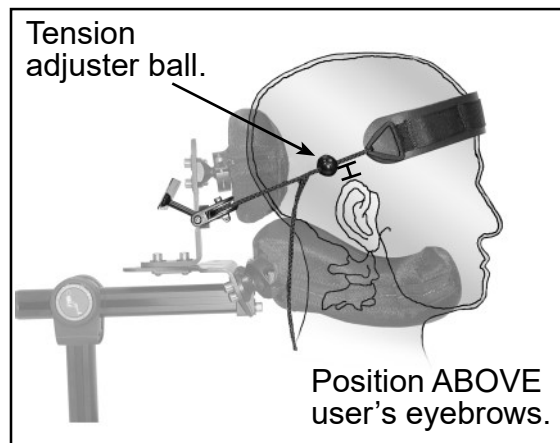

Fig.4
Step 3 (Fig. 3) - Adjusting the angle of forehead strap pull: Adjust the assembly up or down to achieve a direction of pull on the forehead that is perpendicular to the slope of the forehead (Fig.4).